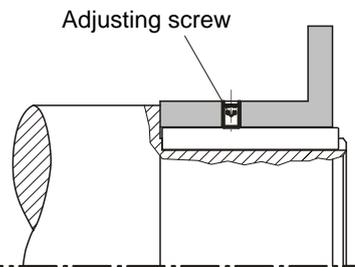

Fig. 5
- ❑ For axial securement, please provide an additional adjusting screw (ISO 4029 - 45H) as an alternative to a press cover (see Figs. 5 and 6). The adjusting screw dimensions and tightening torques stated in Tables 1 and 2 must be kept to. On split clamping hubs (1.7), no axial securement is necessary.